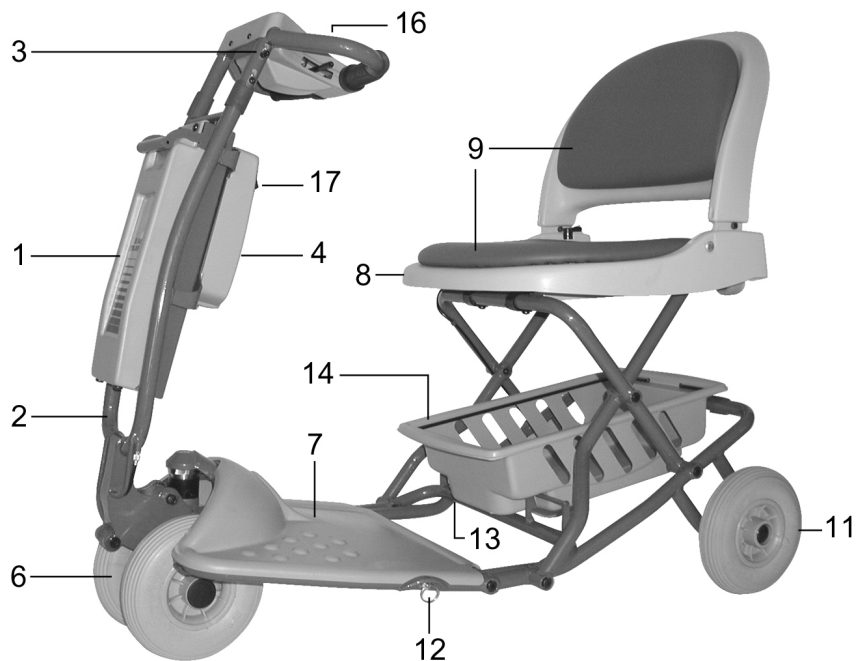

Figure 1
3.1. **Lexis Light** parts – (Figure 1)